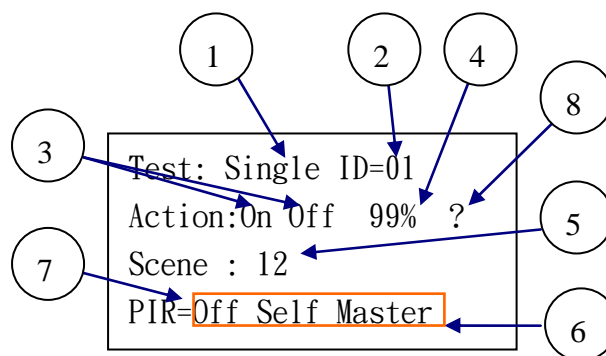

Figure 2.7: The LCD display showing test functions for target devices
When the DALI system is installed, users can use this function to test the system. Please refer to Figure 2.7 and follow the steps described below.
- (1) There are three options available for selection.
- Single: Give instructions to the single target device with ID number indicated by ② in Figure 2.7.
- Group: Give instructions to the group with group number indicated by ② in Figure 2.7. ◦
- (2) When “Single” is selected in ①, the operating range of ② is 0-63; When “Group” is selected in ①, the operating range of ② is 0-15; When “All” is selected in ①, the value of ② can be ignored.
- (3) When the cursor is located at the “On” position of ③ in Figure 2.7, instruction to switch on the target device will be emitted by pressing the “OK” button. Similarly, when the cursor is located at the “Off” position of ③ in Figure 2.7, instruction to switch off the target device will be emitted by pressing the “OK” button.
- (4) When the cursor is located at the position of ④ in Figure 2.7, the target device will output the value of selected illumination by pressing the “OK” button.
- (5) When the cursor is located at the position of ⑤ in Figure 2.7, scene instructions can be given to the target devices by pressing the “OK” button. The allowable range for scene is 0-15. The values shown in ① and ② will be considered for the scene instruction.
- (6) If a target device is equipped with a PIR sensor, users can enable or disable automatic control function of the PIR through the position ⑥ in Figure 2.7. A target device can work in the following three modes when PIR sensor is equipped. (i) The PIR disable mode in which the PIR is inactive. This mode can be achieved by moving cursor to the off position and pressing the “OK” button. (ii) The PIR self mode in which the target device will control the illumination by itself. In this mode, however, any DALI dimming command received can change to PIR disable mode. (iii) The PIR master mode in which illumination of the same group of DALI device will be enhanced when PIR sensor is active. Note that this working mode will not change when a DALI dimming command is received. This is different from the PIR self mode.
- (7) When the cursor stay on ⑦ at “=” sign, users can obtain PIR working mode for ID ② by pressing the “OK” button. After the PIR working mode is selected, the cursor will jump to corresponding location “Off”, “Self” or “Master”. Note that this function is only workable when the position ① “Single” is selected.
- (8) When the cursor stays on ⑧ at “?” sign, users can obtain the actual level shown in ④ by